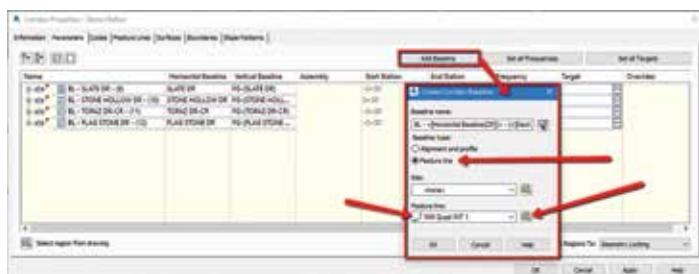

Figure 6
6. From the Parameters tab, select Add Baseline. The Create Corridor Baseline dialog box will appear, select Feature Line from the Baseline type (Figure 6).